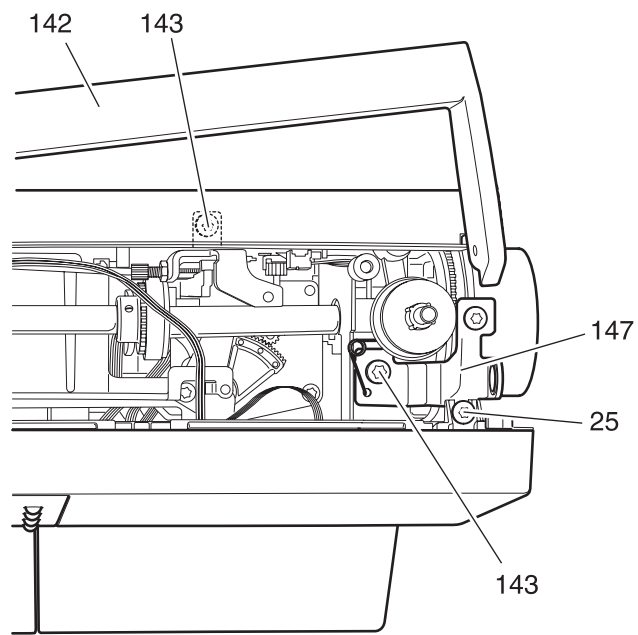

Fig. 98
- Insert the carrying handle 142 in the bracket (fig. 98).